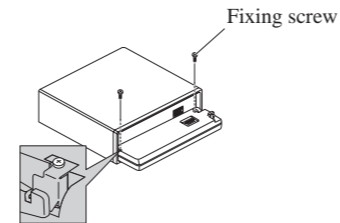

Fig. 14
3. Fix the front panel to the unit using fixing screws. (Fig. 14)